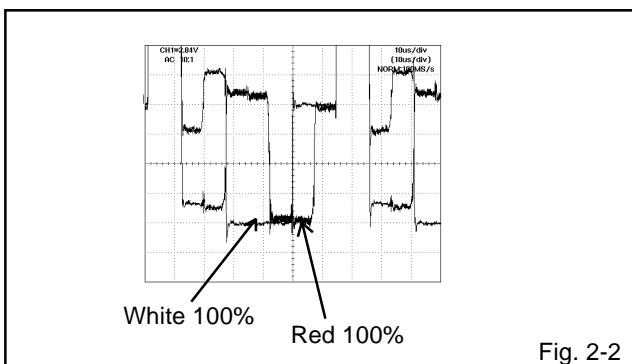

Fig. 2-2
8. Press the VOL. UP/DOWN button on the remote control until the red color level is adjusted to 100% ± 10% of the white level. **(Refer to Fig. 2-2)**